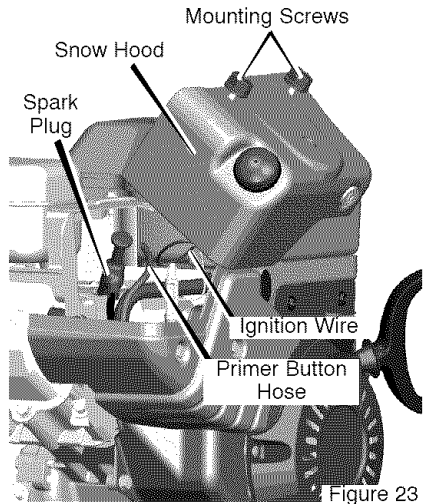

Figure 23
3. Remove the **mounting screws** (see Figure 23).
7. Mount the snow hood to the engine and secure with the mounting screws (see Figure 23).